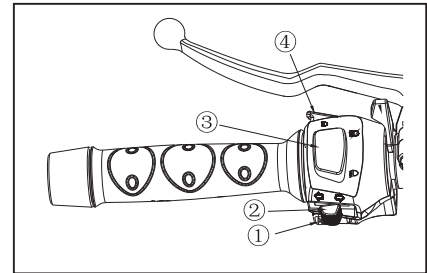

Figure 7 Left Handle Switch Set
### (4) Left Handlebar Switch Set (Figure 7)
- ① Horn button
- ② Turn signal lamp switch
- ③ Headlight dimmer switch
- ④ Overtake light switch